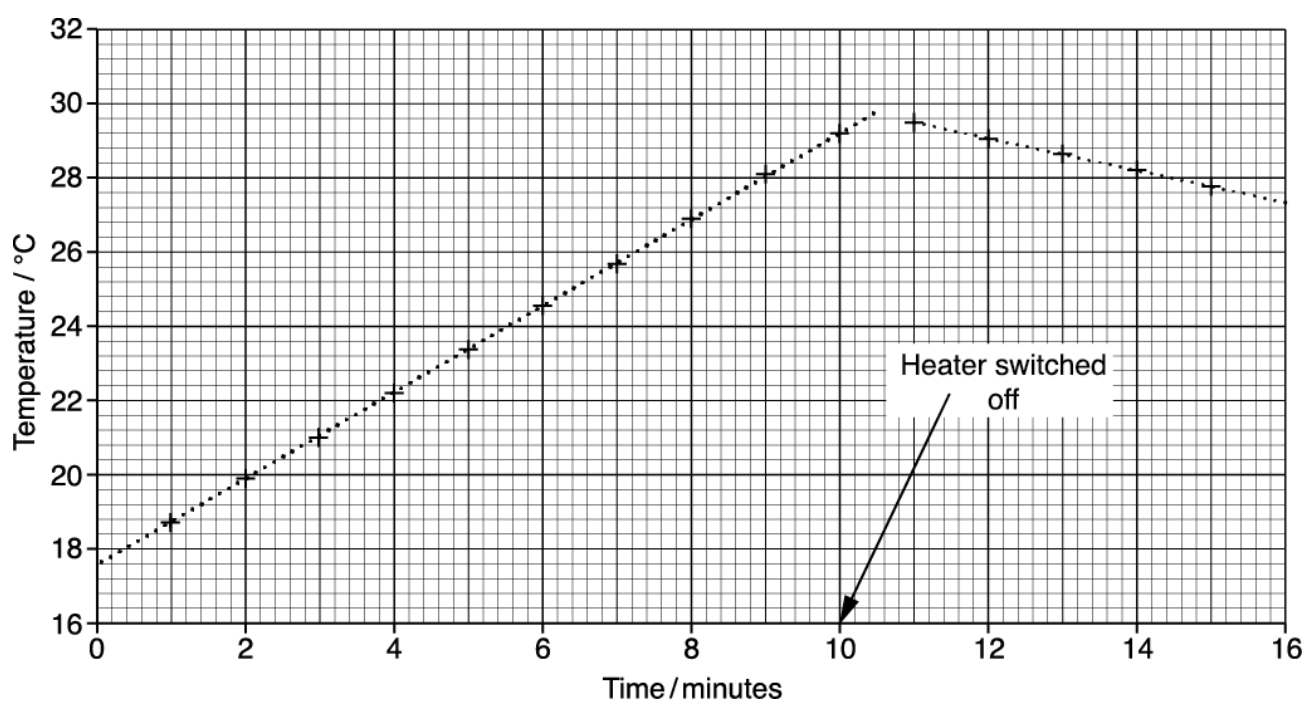

Fig. 1.2
Fig. 1.2 shows a graph of temperature against time.
- (ii) Use Fig. 1.2 to estimate the maximum rate of cooling when the switch is opened.